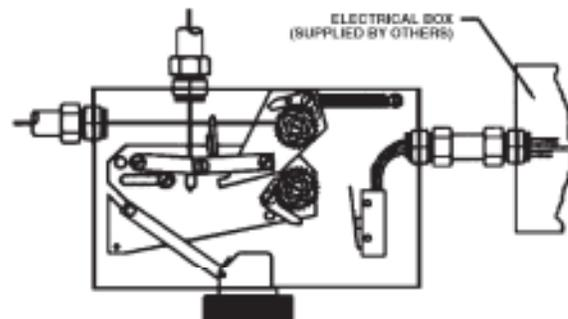

**Figure 4-20. Tee Pulley Installation.**
The Model TP-1 Tee Pulley is used to connect two (2) mechanical gas valves or two (2) remote mechanical pull stations to a single control head. The cable proceeding from the control head must always enter the branch of the tee pulley. See **Figure 4-20**.